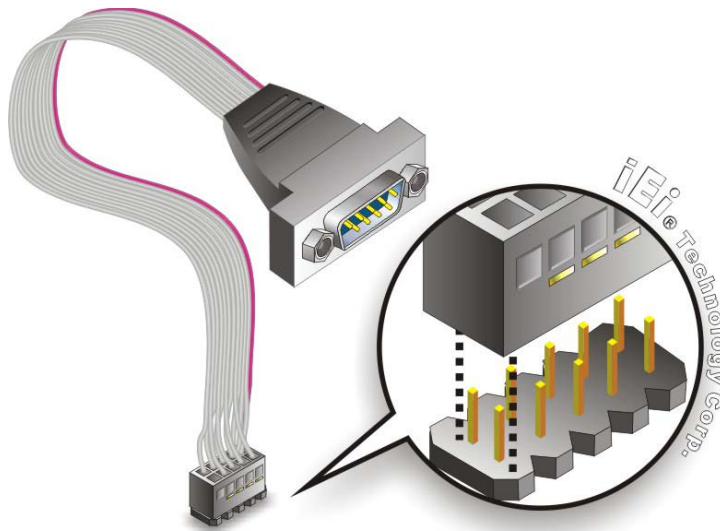

Figure 4-8: Single RS-232 Cable Installation
- Step 2:** **Insert the cable connector.** Insert the connector into the serial port box header. See **Figure 4-8**. A key on the front of the cable connectors ensures the connector can only be installed in one direction.